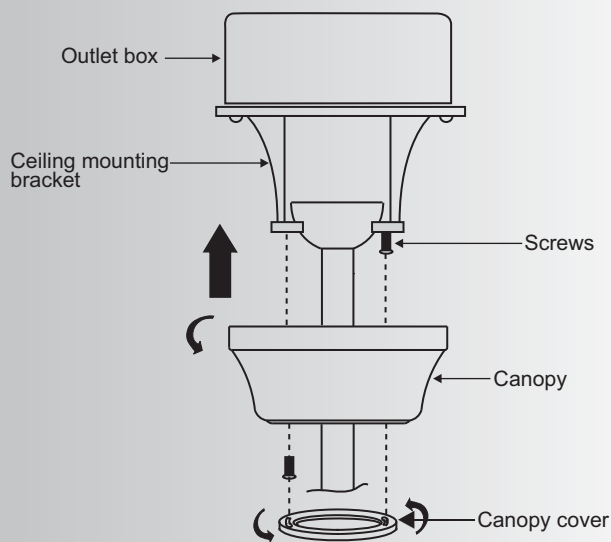

Fig. 13
Step 3. Align the remaining circular hole on the canopy with the remaining hole on the Ceiling Mounting Bracket. Secure the bracket by tightening the set screws and rotate clockwise until tight. **NOTE:** Adjust the canopy screws as necessary until the canopy and canopy cover are snug. (Fig.13)